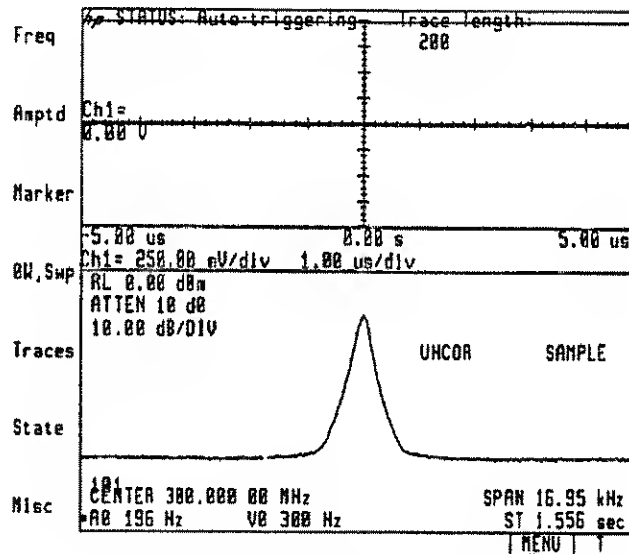

Figure 2-5. Assigning the Keyboard
4. Assign each window to a different instrument in the system, so that the display screen is similar to Figure 2-5.